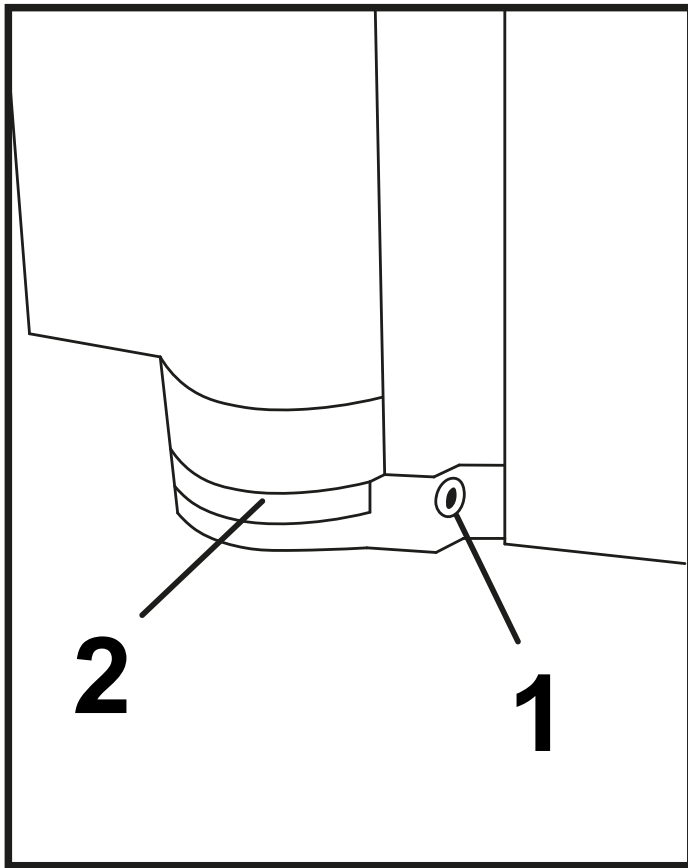

Figure 17
43. To adjust the mono hinge, loosen both mounting screws (1) on the washer by a few turns using the included Allen key. (Figure 17)
44. Move the glass (2) to the desired position where you want to secure the door.
45. Once the glass (2) is in the desired position, tighten the washer mounting screws (1).